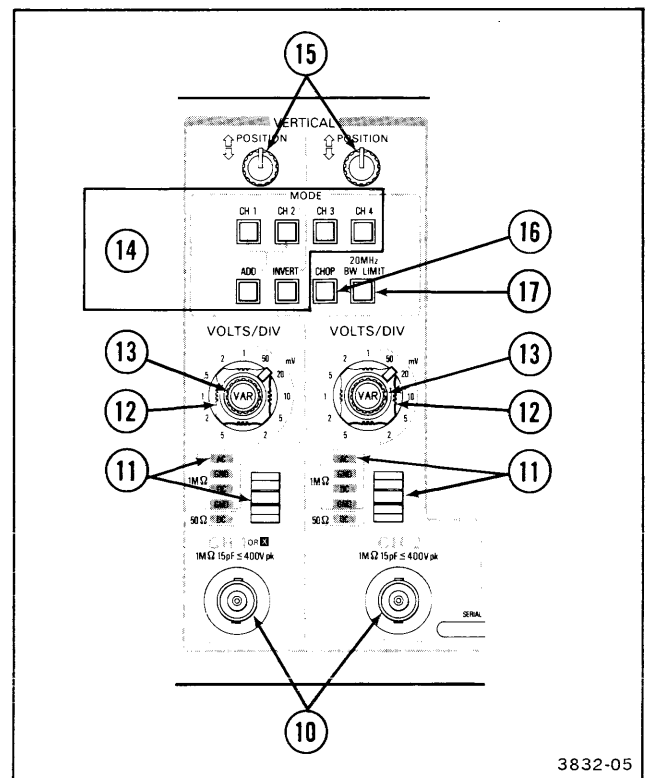

Figure 2-3. Vertical controls and CH 1 OR X and CH 2 connectors.
Refer to Figure 2-3 for location of items 10 through 17.